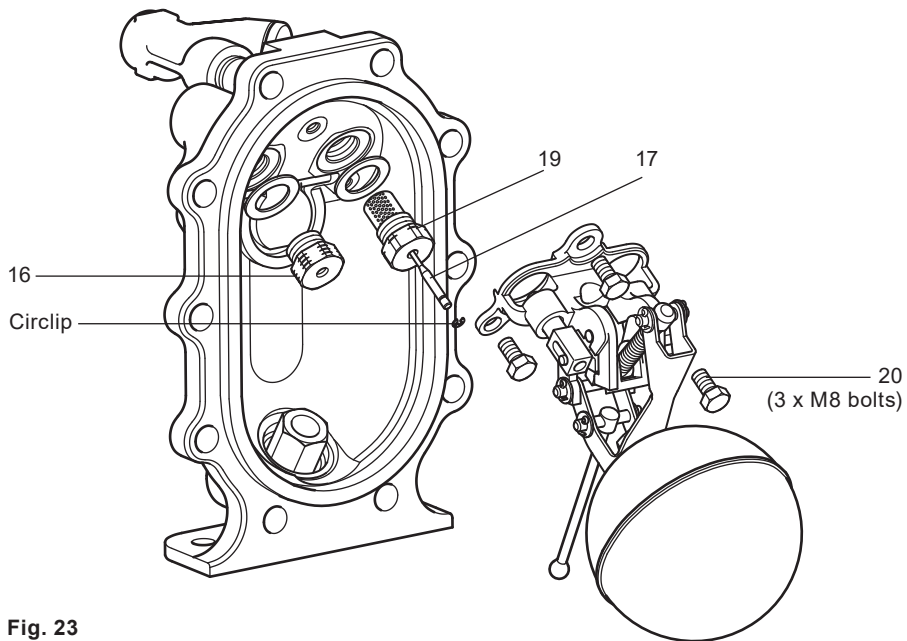
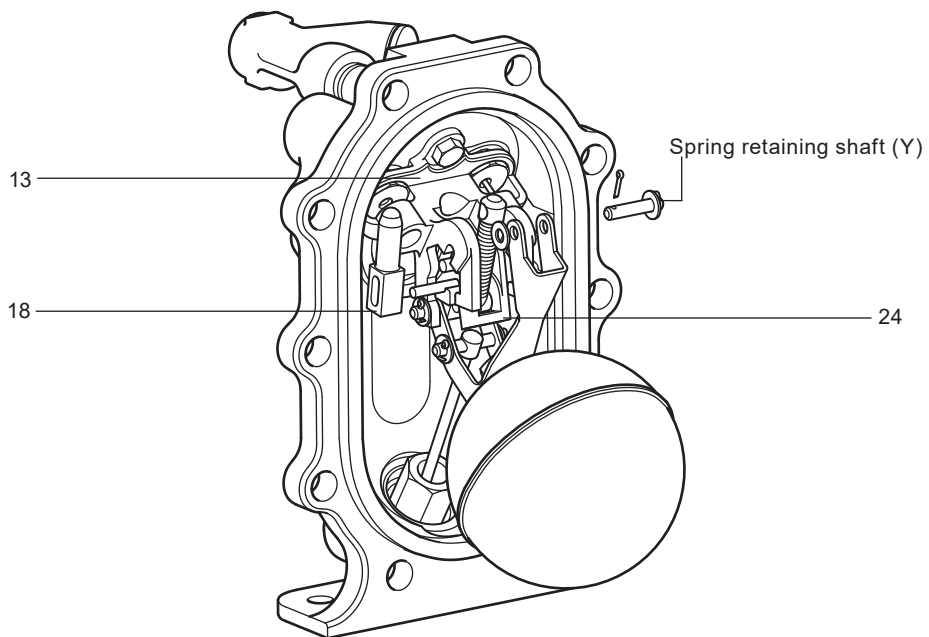

Fig. 23
Fig. 24
9. Insert the replacement steam valve assembly (item 17) and exhaust valve (item 16) according to Fig. 23.
10. Place a new metal gasket (item 19) onto the threads of the seat before tightening into the cover.
15. To remove the exhaust valve (item 18), remove split pins, washers, and shaft (Y) from the top spring pivot point. (See Fig. 24).
17. Draw the actuator arm downwards within its slots until it comes free. It may be necessary to slide the exhaust valve backwards against its internal spring to free it from the pump bracket guide (item 13).